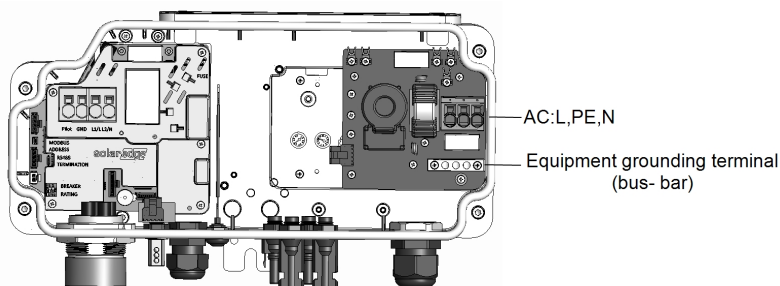

Figure 12: Inside the Connection Unit
- Insert the grounding cable to the equipment grounding bus-bar (see Figure 12).